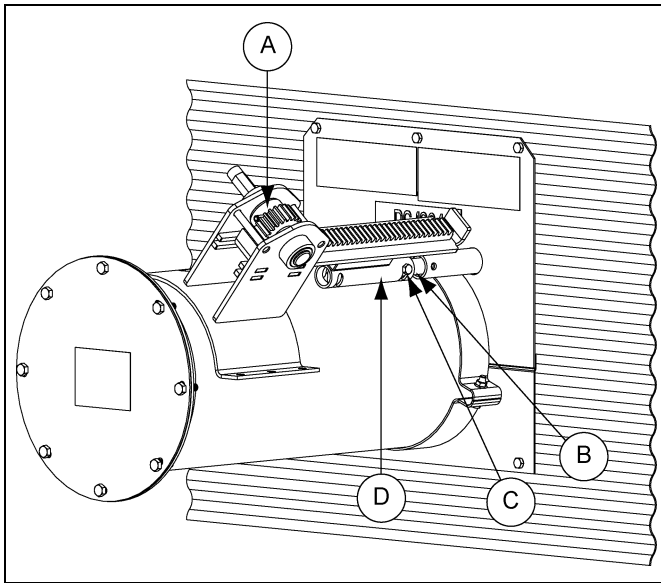

Figure 4N 8" and 10" Systems
2. Slip rack and pinion tube over center gate control rod and align holes, making sure rack and pinion is fully extended toward bin wall. (See Figure 4N.)
3. With rack and pinion resting on unload tube and tube holes aligned, insert one 5/16" x 1-3/4" bolt through the rack and pinion tube and center gate control rod. Fasten together with a nut. (See Figure 4N.)